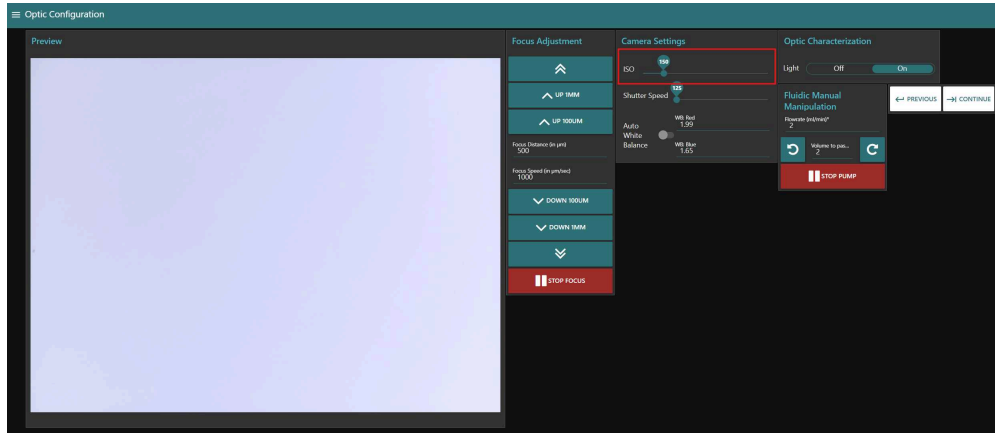

Figure 10: The red box highlights the location of the ISO setting
- Under "Camera Settings", you can see a button to change the ISO value (Fig.10). **Set the ISO to 150**. You should see your Preview image change colour when you adjust this setting. The ISO is the light sensitivity of the camera. A low ISO will be less sensitive to light and then darker. A low ISO tends to provide images of better quality.